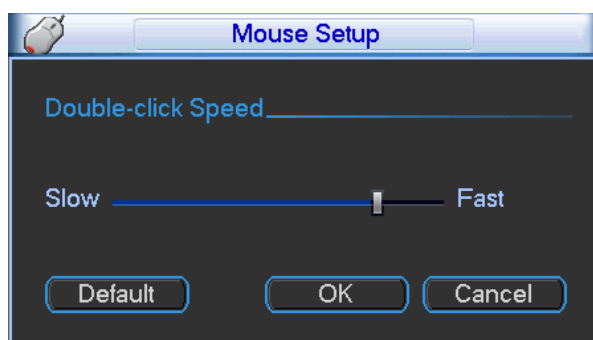

Figure 4-25
- Mouse property: Click mouse setup button, you can go to mouse setup interface. See Figure 4-25. You can set double click speed via dragging the slide bard. You can Click Default button to restore default setup.